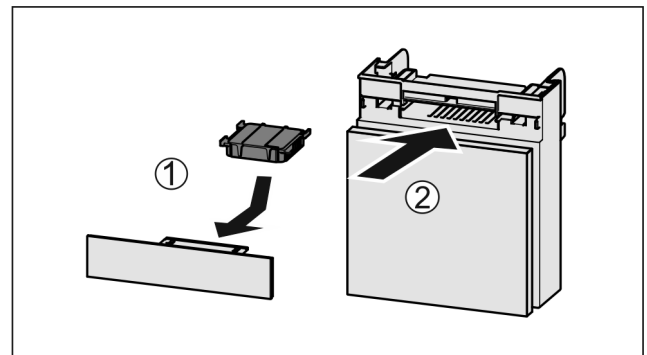

Fig. 77
- ▶ Insert the carbon filter as shown in the diagram *Fig. 77 (1)*.
- ▶ Push the compartment in *Fig. 77 (2)*.